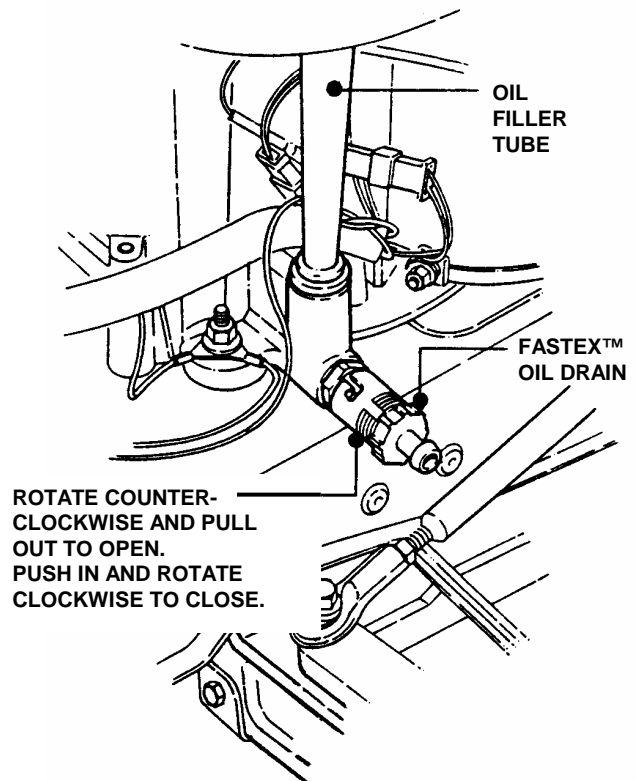

FIGURE 3.1
1. Rotate drain body counterclockwise and pull out to open drain. See Figure 3.1.